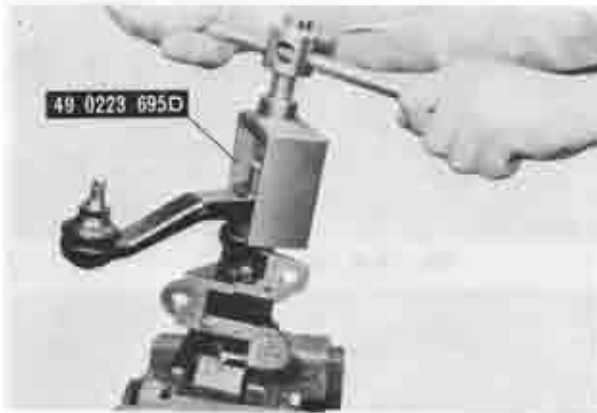

Fig. 10-6 Removing pitman arm
3. Remove the nut attaching the pitman arm and remove the pitman arm with the **pitman arm puller** (49 0223 695D), as shown in Fig. 10-6.